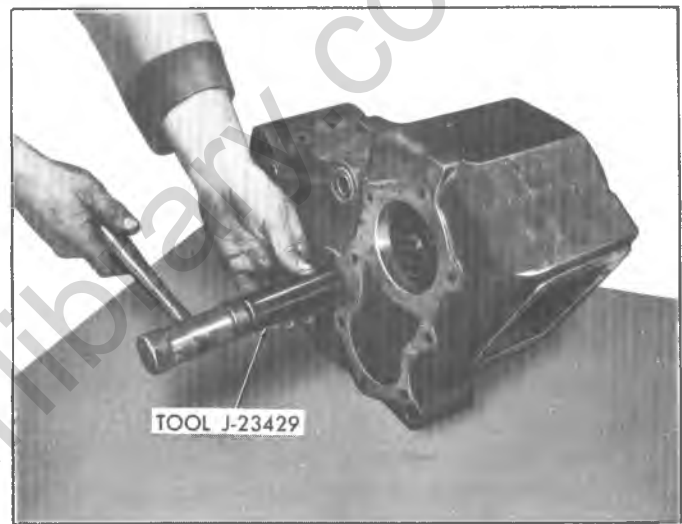

Fig. 8C-Removing Idler Gear Shaft
3. Remove idler gear shaft using a soft hammer and tool J-23429 (Fig. 8C).
5. Remove bearing cups (2) as required from idler gear.